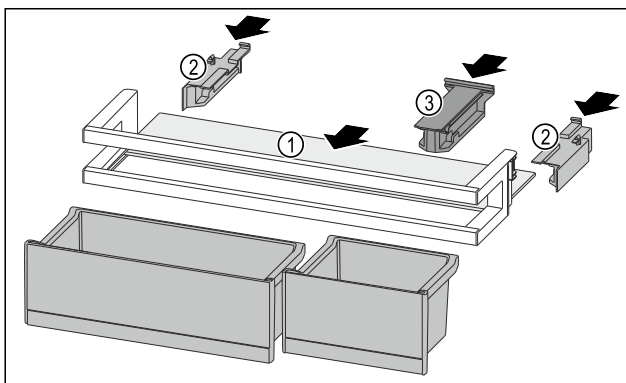

Fig. 225
- ▶ Push the shelf Fig. 225 (1) into the side recesses.
- ▶ Insert the side parts Fig. 225 (2).
- ▶ Insert the holding part Fig. 225 (3).